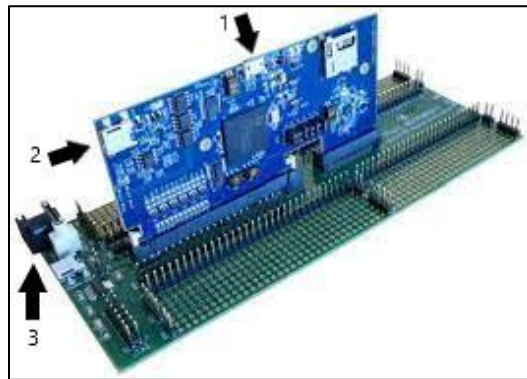

Figure 1: TI Microcontroller (Vertical) and Development Board (Horizontal)
As shown in Figure 1, we can see the proper connection of the TI Microcontroller and the Development Board. By carefully connecting the two boards, and latching the two tiny, white latches into place, the board is ready to be plugged in.
1. Plug the USB Micro into the top of the TI Microcontroller (Labeled as 1 in Figure 1). Next, plug the USB Mini-B into the side of the TI Microcontroller (Labeled as 2 in Figure 1). After these connections are established, you should see two red LED light up on the microcontroller. The steps are the same for 3, except instead of the USB micro, you will plug the second USB Mini-B into the correct side on the Dev Board next to the DC Power Jack (Labeled as 3).
2. Plug the USB Micro into the top of the TI Microcontroller (Labeled as 1 in Figure 1). Next, plug the DC Power adapter in the side of the development board into the barrel connector (Labeled as 3 in Figure 1). Then flip the switch next to the barrel connector so that the LED on the development board turns on. After these connections are established, you should see two red LED light up on the microcontroller and a green LED light up on the development board.